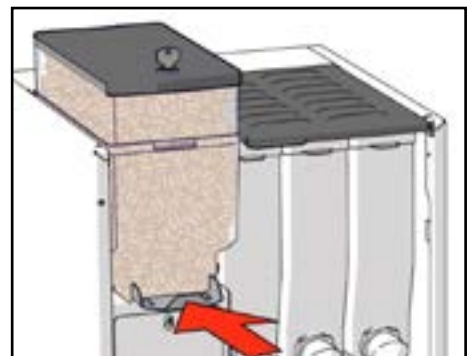

Figure 65.
8. Fully re-insert the slide (see Figure 65).